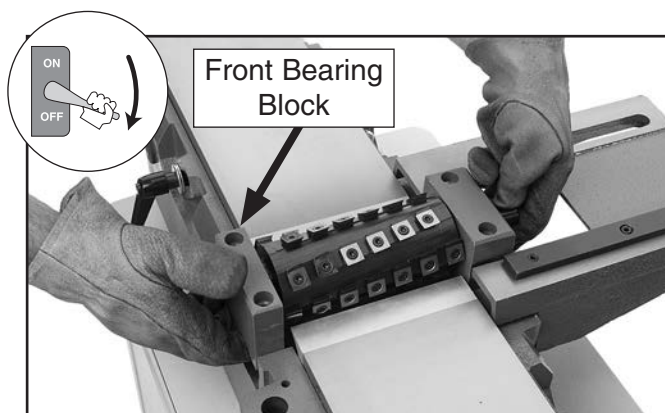

Figure 8. Example of installing helical cutterhead.
18. While keeping bearing blocks pressed against helical cutterhead, move cutterhead to jointer. Using mark from **Step 9**, install cutterhead so front bearing block is positioned at front of machine (see **Figure 8**). Be careful not to chip carbide inserts on jointer beds.